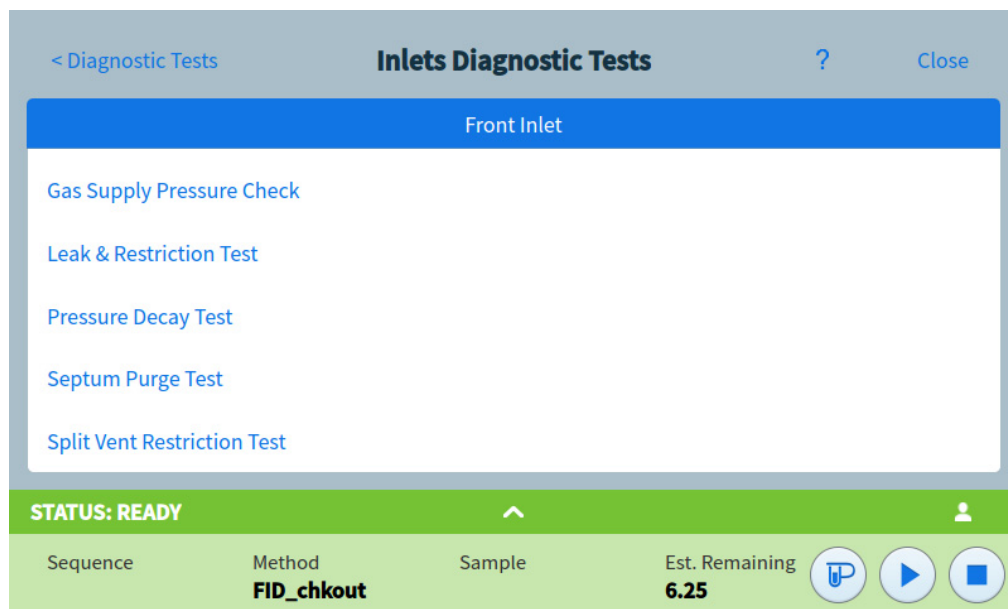

Figure 28 Inlet Diagnostic Tests page
- 3 Press **Inlets**, **Detectors** or **Instrument**, as desired. The corresponding page will appear. For example, pressing **Inlets** brings up the Inlet Diagnostic Tests page. See Figure 28.